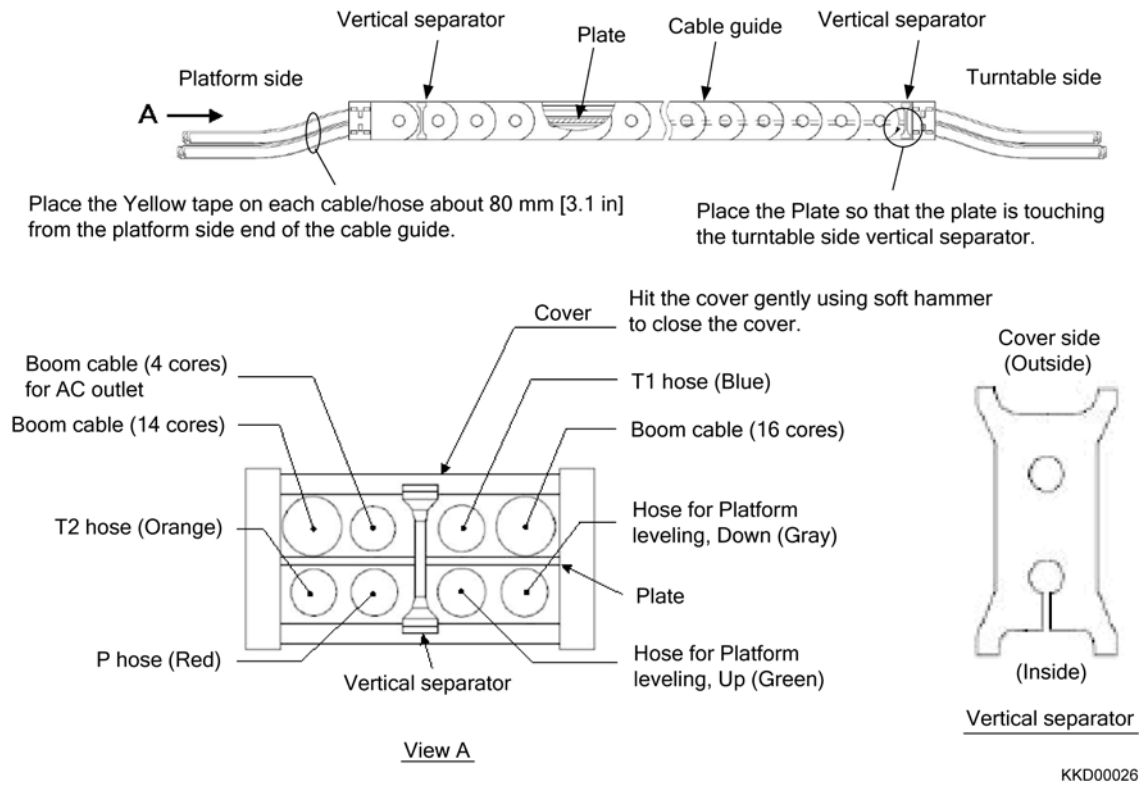

Fig. 2-57
2) Set the boom cables and hoses in the cable guide as shown in Fig. 2-57